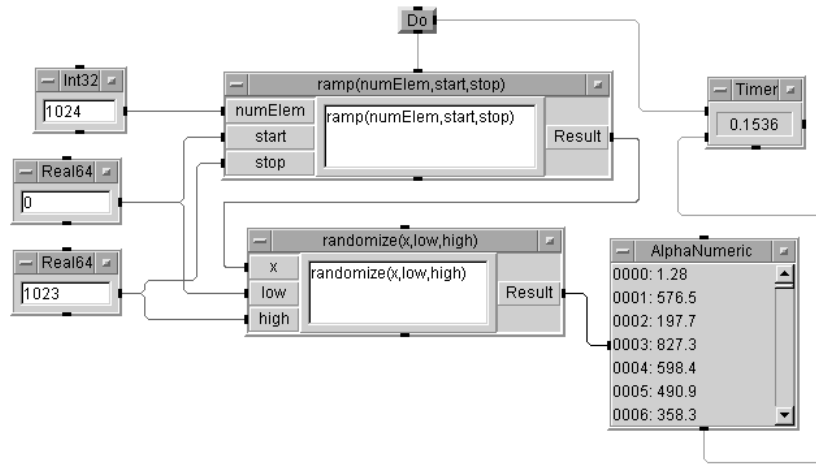
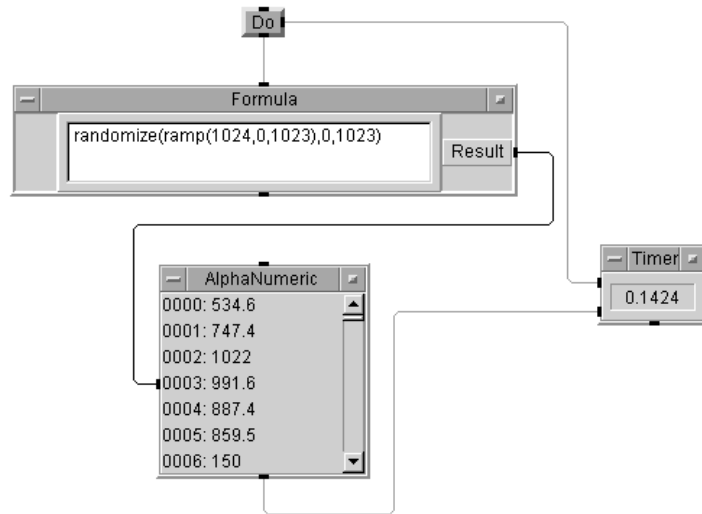

Figure 255 Function Calls without Optimization
Figure 256 Function Calls with Optimization
- 2 Nest function calls within other function parameter lists. For instance, in Figure 255, the function randomize uses the array generated by the function ramp. In Figure 256, the